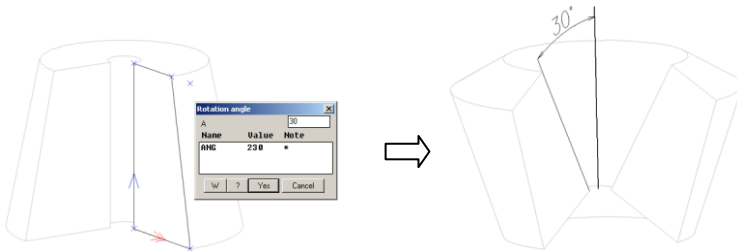

Fig. 4.60 Entering cross section rotation angle for the body of revolution
*rotation angle #E / reverse X #X / reverse Y #Y / *apply #G:* Select an option to edit the object, for example “rotation angle”. Enter the angle value into the dialog window, see fig. 4.60.
Determines the angle between the revolution body axis and cross section X-axis, see fig. 4.60.